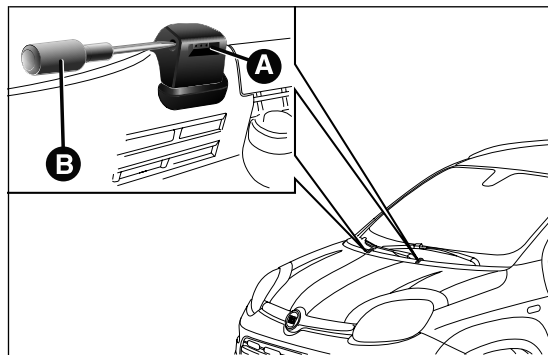

fig. 154
- ☐ raise the wiper arm, press tab A fig. 154 of the attachment spring and remove the blade from the arm;